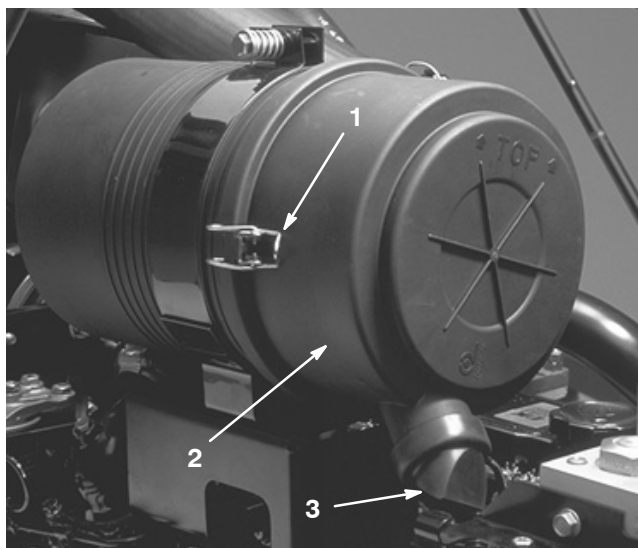

Figure 46
1. Release the latches securing the air cleaner cover to the air cleaner body (Fig. 46).
2. Remove the cover from the air cleaner body (Fig. 46). Before removing the filter, use low pressure air (40 psi, clean and dry) to help remove large accumulations of debris packed between outside of the filter and the canister. Avoid using high pressure air which could force dirt through the filter into the intake tract. This cleaning process prevents debris from migrating into the intake when the filter is removed.
4. Clean the dirt ejection port located in the removable cover. Remove the rubber outlet valve (Fig. 46) from the cover, clean the cavity and replace the outlet valve.